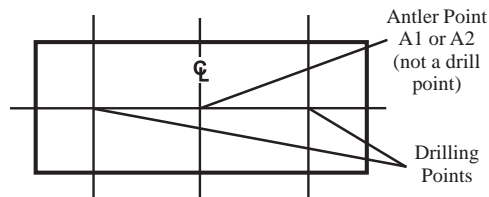

Figure 14 - Drawing the Intersecting Lines
5. Remove Template A and draw three straight lines that intersect the number 1 marks, number 2 marks, and number 3 marks (Figure 14). The intersections of these lines will be used to drill through the floor later.